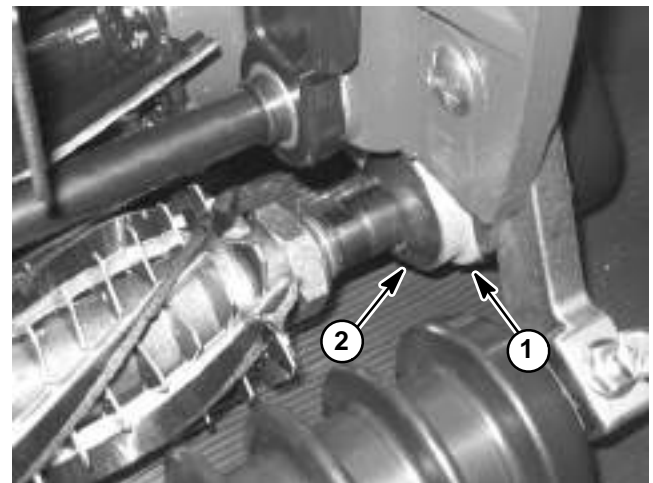

Figure 10
C. Remove the flange nut (item 6) that secures driven pulley (item 5) to groomer shaft. Remove driven pulley from shaft. Locate and retrieve square key (item 4) that locates driven pulley on shaft.
D. Slide washer (item 3) and pulley spacer (item 2) from groomer shaft.
E. Remove shoulder bolt that secures quick-up ball joint rod to groomer plate (Fig. 10).
F. Disconnect extension spring (item 14) from stud on groomer plate.
G. Remove two (2) socket head screws (item 7) that secure groomer components to cutting unit side plate.
B. Remove two (2) socket head screws (item 7) that secure groomer components to cutting unit side plate.
3. Make sure that excluder seals (item 23) and O-ring (item 24) are positioned on groomer shaft. The excluder seal lips should be toward the end of the groomer shaft. Apply a film of grease onto seal lip.
6. Check that excluder seals just touch groomer plate assembly (Fig. 10). Reposition excluder seals on groomer shaft if necessary.